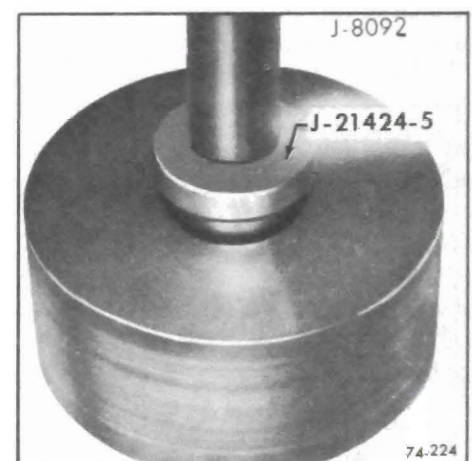

Figure 74-225
1. Install J-21424-5 in front of forward clutch drum. Using Drive Handle J-8092 press bushing into bore until Tool J-21424-5 bottoms on hub. See Figure 74-225.